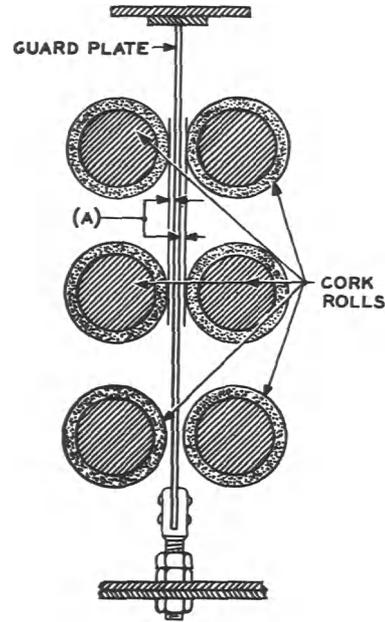

Fig. 8 - Clearance Between Guard Plates and Cork Rolls
***2.17 Clearance Between Guard Plates and Cork Rolls:** Fig. 8(A) - The guard plates shall clear the cork rolls by